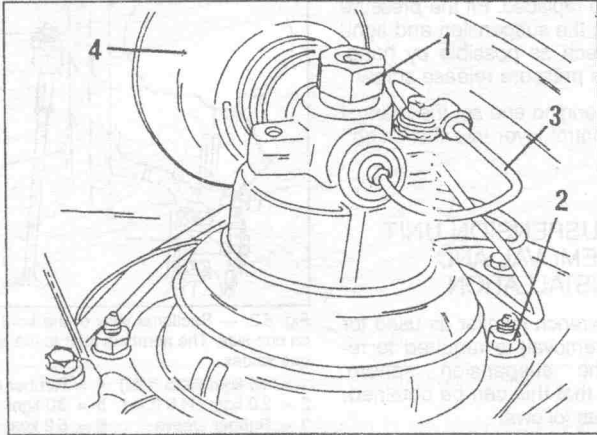

Fig. 6.4. — Details for the removal and installation of suspension cylinders.
- *The suspension cylinder can now be removed together with the head.* To do this, refer to Fig. 6.4 and disconnect the pipe (3) from the cylinder head. Unscrew the four nuts (2) around the hydraulic head and withdraw the cylinder from below.
- *The cylinder can be removed on its own.* Release the upper end of the rubber boot from underneath the vehicle, remove the nut (1) in Fig. 6.4 and free the hydraulic head from the cylinder piston rod. The hydraulic head is fitted to a cone and it may be difficult to remove it. Citroën workshops use a spray to detach the cone. Try a few taps with a plastic mallet against the piston rod. Remove the cylinder from below.
- *If the cylinder has been removed with the hydraulic head,* insert the suspension cylinder from above, engaging the four studs. Fit and tighten the four nuts to 2.0 kgm (14.5 ft.lb.). Re-connect the pipe (3) in Fig. 6.4.
Fig. 6.4 with 4.5 kgm (32.5 ft.lb.). Fit the rubber boot at the upper end.
**Note for Hydractive Suspension:** The pipe (3) in Fig. 6.4 is fitted without a seal. Tighten the connection to 3.3 kgm (22 ft.lb.).